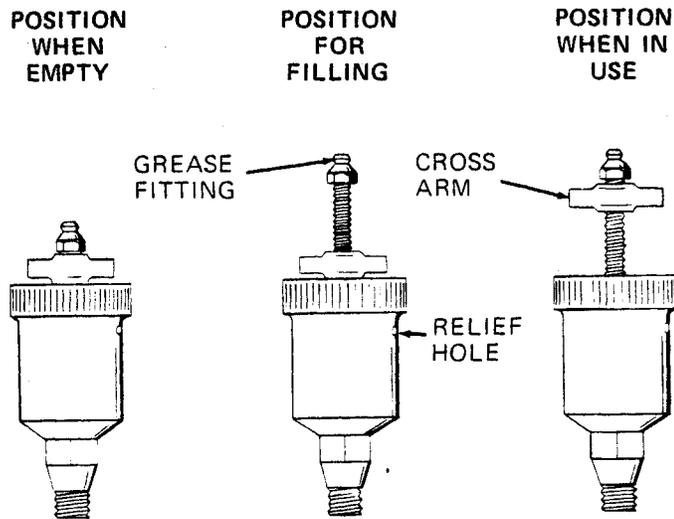

Figure 5. Automatic Lubricating Grease Cup
Before removing the seal assembly, turn the cross arm on the seal grease cup (11) clockwise until it rests against the cover (see figure 5). This will prevent the grease in the cup from escaping after the seal is removed.
Before starting the pump, fill the grease cup through the grease fitting with a good grade of No. 2 pressure gun grease until grease escapes from the relief hole. Turn the grease cup arm counterclockwise until it is at the top of the stem; this will release the spring to apply grease to the seal (see figure 5).